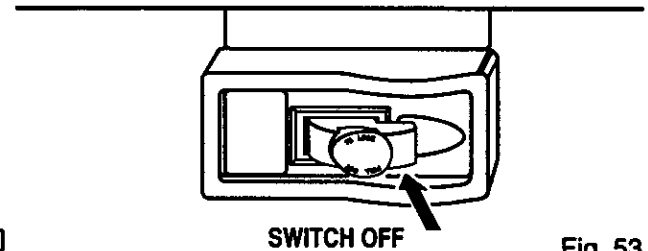

Fig. 53
- When work is completed, press switch off and remove switch key. See *Figure 53*.